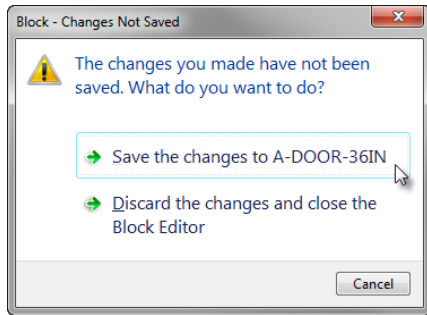

FIGURE 7.8: Choosing to save changes from the Block – Changes Not Saved dialog box
13. If prompted, choose Save The Changes To A-DOOR-36IN (A-DOOR-0915) from the Block – Changes Not Saved dialog box, as shown in Figure 7.8.